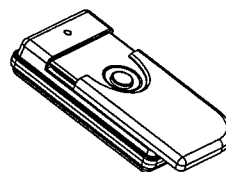

Fig. 10
1. For safety reasons, steel cable is retracted only when the red button on wireless remote control is being pressed. Button is covered by a sliding lid to prevent unintentional operation. To operate the winch, slide the lid downward and push the RED button. See **Fig. 10**. Press and hold the RED button for continuous operation. Winch will stop retracting once button is not pressed.